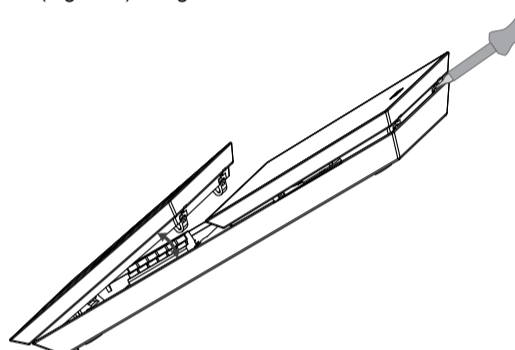

Figure 3: Assembly / Dismantling
- Hook the bottoms of the button cover and display clover (Figure 3) into the the bottom part and push them up until the locking hooks engage.
To dismantle the covers, unlock the locking hooks (Figure 3) using a screwdriver.